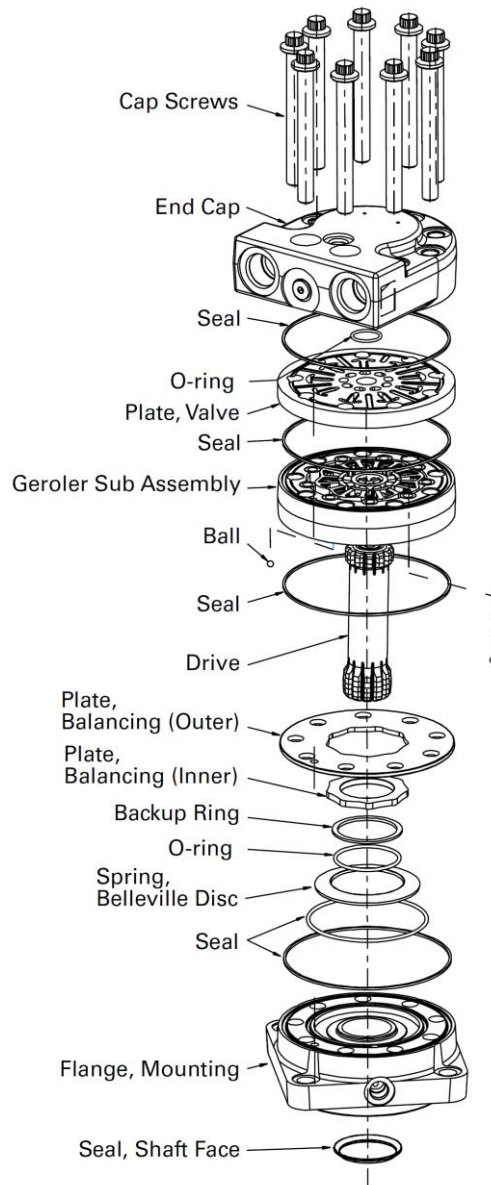

Figure 2 Disassembly
2. Remove the 9 cap screws and disassemble the motor in the vertical position as shown in Figures 2. Note placement of small ball checks in Geroler.